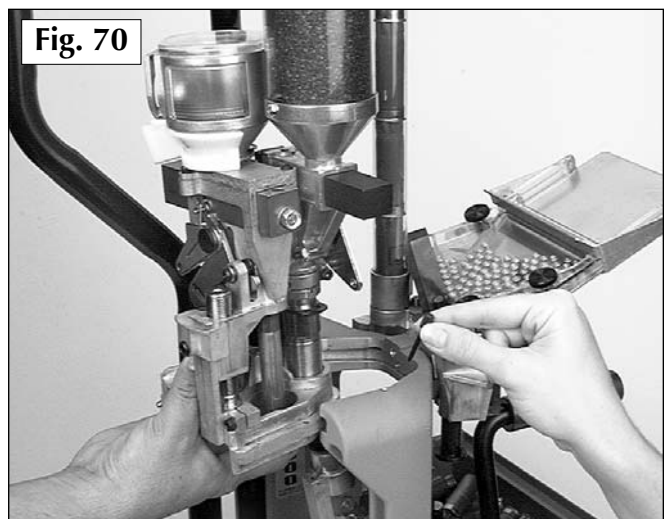

Fig. 70
5. Remove the two toolhead pins (#14008) located on the front and rear of the toolhead and frame. **Fig. 70**